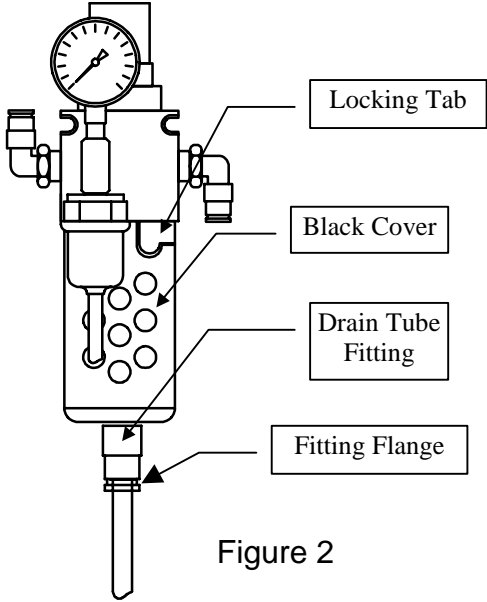

Figure 2
- Remove the existing black cover (*fig. 2*) according to the instructions in the equipment manual and discard it (depress locking tab, rotate to the left, and drop down).